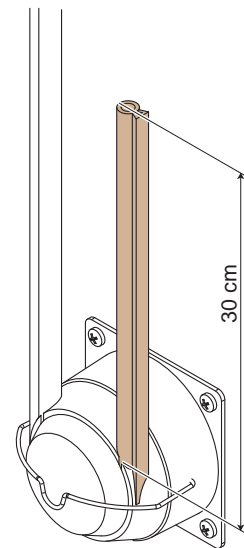

Figure 3-4
3. Adjust the pump hose to the correct length, ± 30 cm (see figure 3-4).